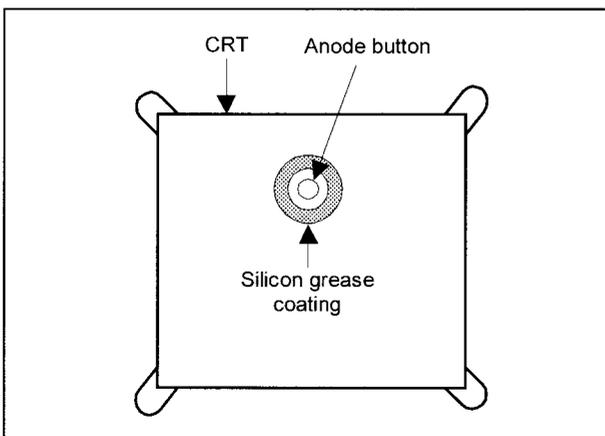
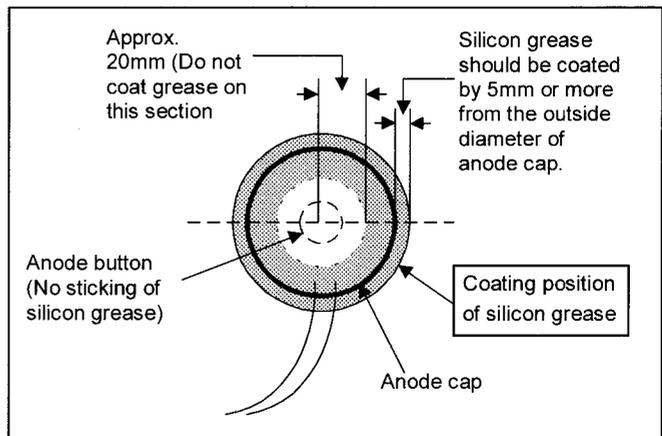

Fig. 6
Fig. 7
- Subsequent to replacement of the CRT and HV transformer or repair of the anode cap, etc. by dismounting them, be sure to coat silicon grease for electrical insulation as shown in Fig.6. Wipe around the anode button with clean and dry cloth. (Fig.6) Coat silicon grease on the section around the anode button. At this time, take care so that any silicon greases dose not stick to the anode button. (Fig.7)